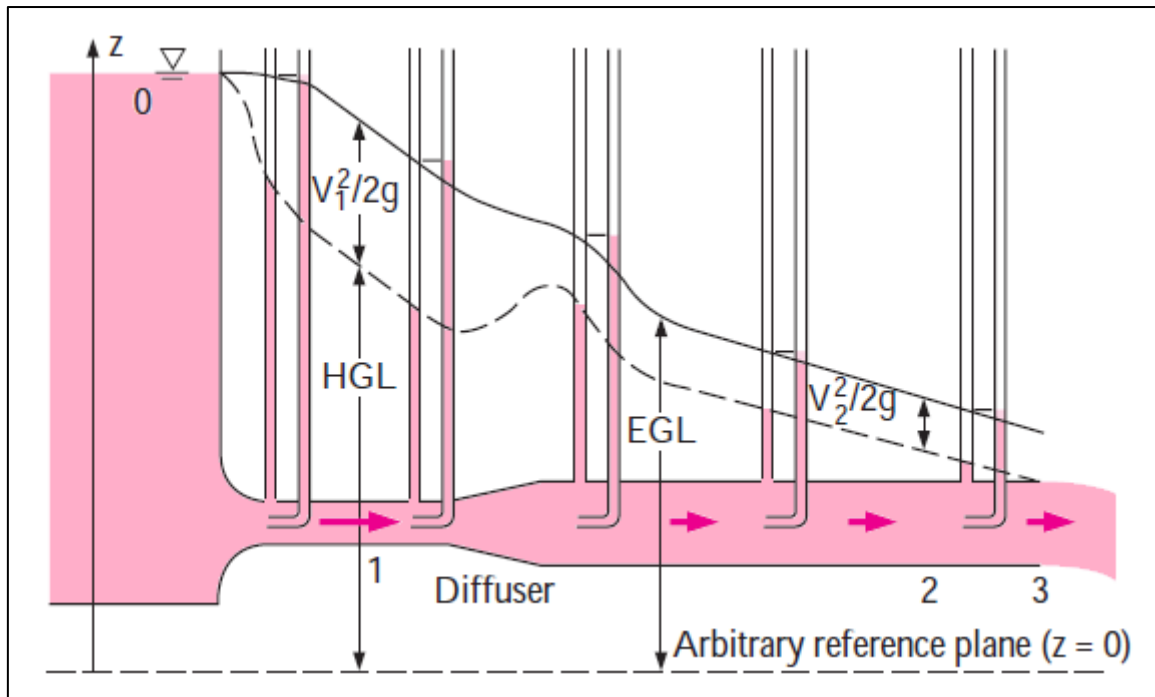

Figure 4. TEL (EGL) and HGL
For different sections along the fluid flow, an arbitrary datum is chosen, as shown in Figure 4.
- At a pipe exit, the pressure head is zero (atmospheric pressure); thus, the HGL coincides with the pipe outlet (3 in Fig. 4).